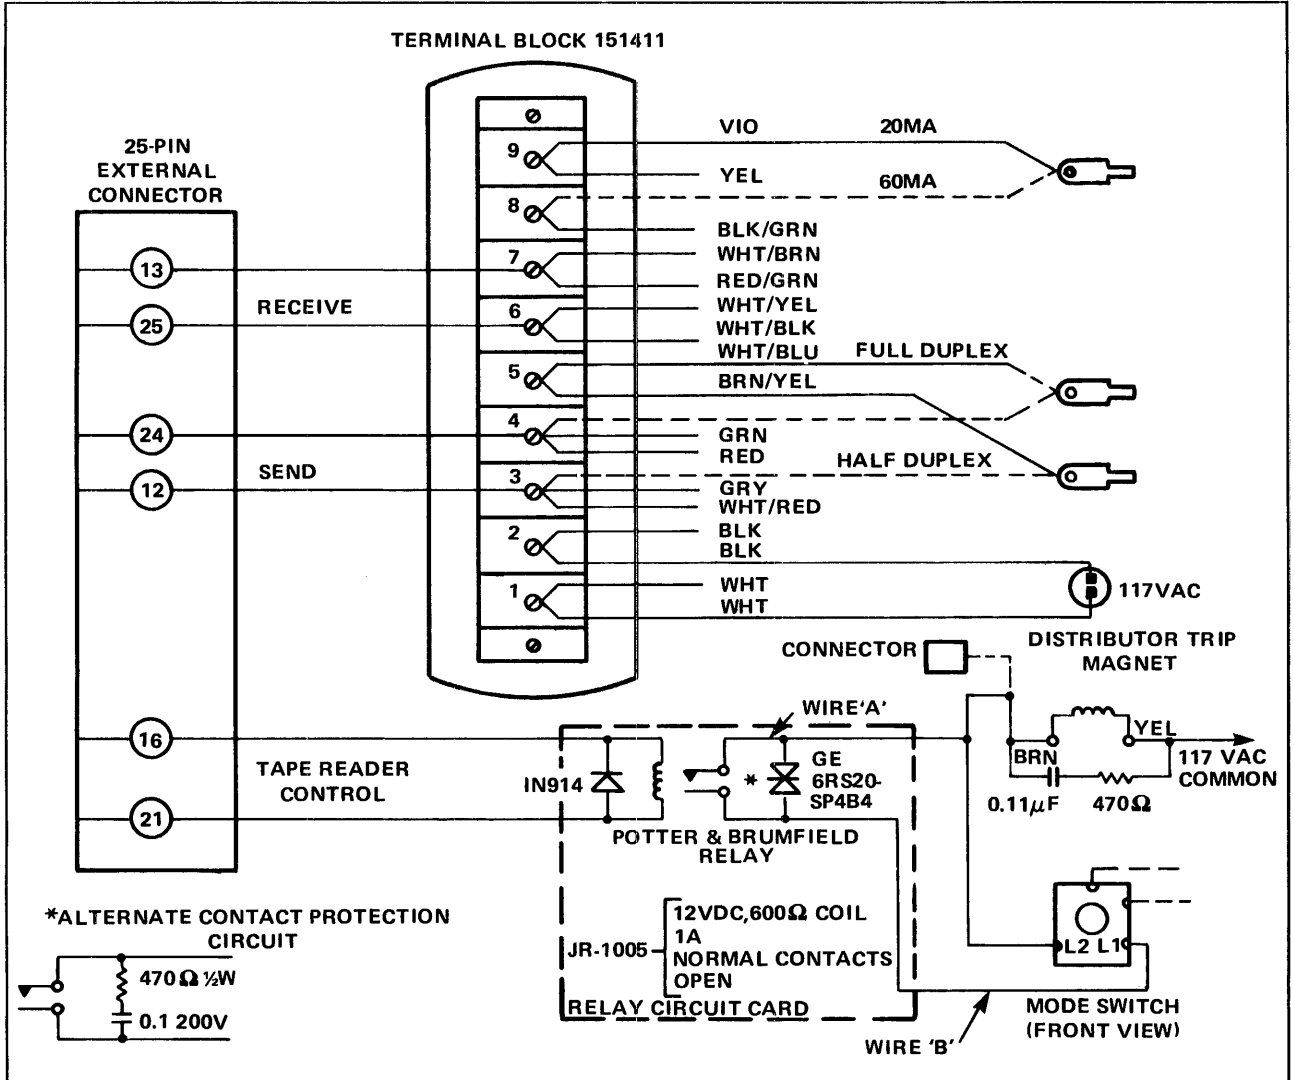
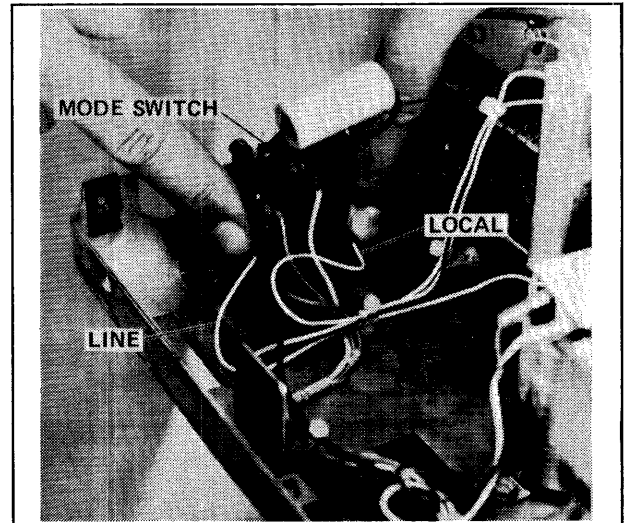

Figure E-4. Teletypewriter Modifications
Figure E-6. Mode Switch
A circuit diagram of the relay circuit card is included in figure E-4; this diagram also includes the part numbers of the relay, diode, and thyrector. (Note that a 470-ohm resistor and a 0.1  $\mu$ F capacitor may be
- a. Refer to figure E-4 and connect a wire (Wire 'A') from relay circuit card to terminal L2 on mode switch. (See figure E-6.)
- c. Refer to figure E-4 and connect a wire (Wire 'B') from relay circuit board to terminal L1 on mode switch.
Connect a two-wire receive loop, a two-wire send loop, and a two-wire tape reader control loop to the external device as shown in figure E-4. The external connector pin numbers shown in figure E-4 are for interface with an RS232C device.